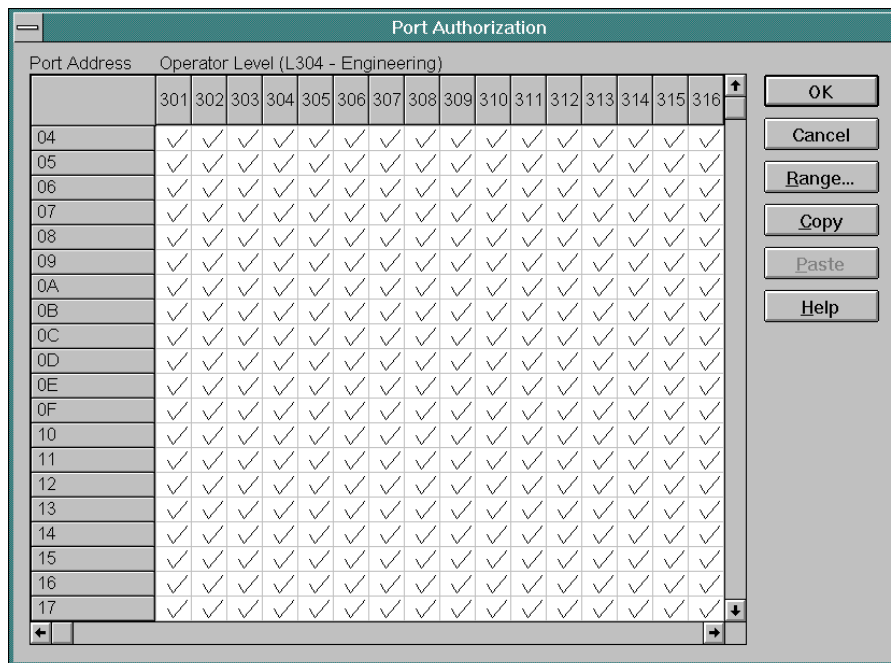

Figure 10-9. Port Authorization Dialog Box (Unmodified)
7. Select the *Port Authorization* option from the *Utility* menu. The *Port Authorization* dialog box appears (Figure 10-9).